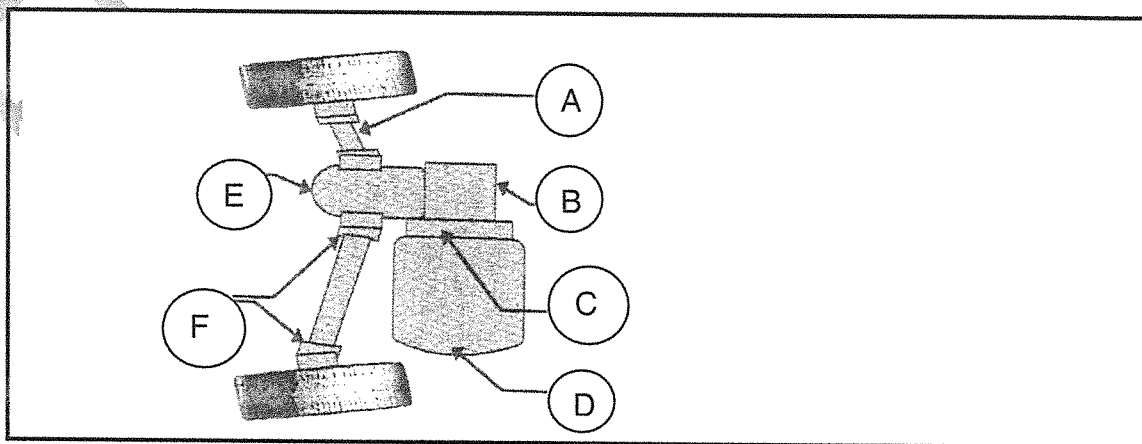

FIGURE 4
3.2 FIGURE 4 below shows a front engine, front-wheel drive.